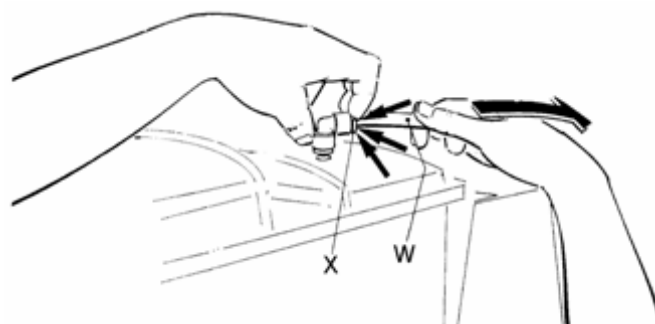

Fig. 18
3. Extract the quick couplings and the pressure switch (see part number 11 in figure 40) as illustrated in fig.18.